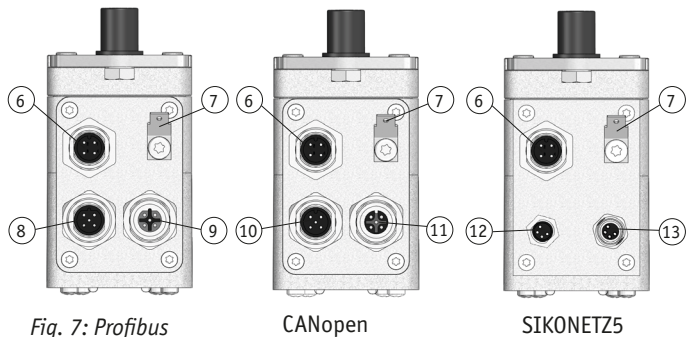

Fig. 7: Profibus
Protect all contacts that might be energized from being touched. Take care that the bus is connected via the "Bus In" (8) connection (see Fig. 7). The live contacts on "Bus Out" (9) will be protected by the bushing this way (IP type of protection, see chapter 9).